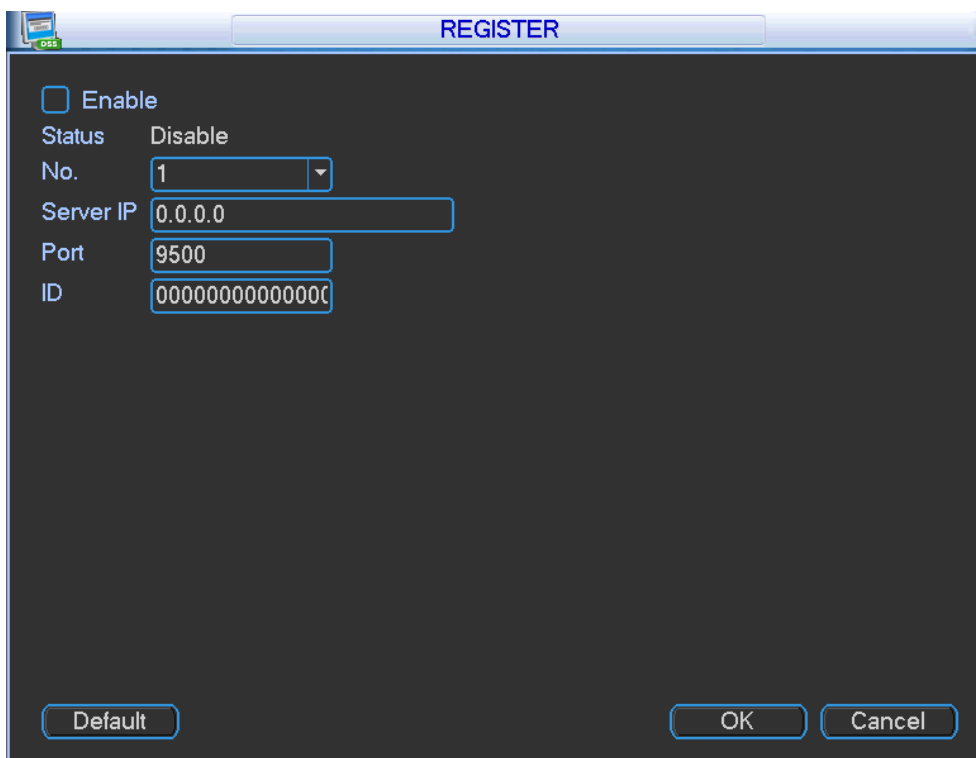

Figure 4-33
1) The setup interface is shown as in Figure 4-33.
3) Now you can add device. Please do not input default port number such as the TCP port in the mapping port number. The device ID here shall be the same with the ID you input in Figure 4-33. Click Add button to complete the setup.